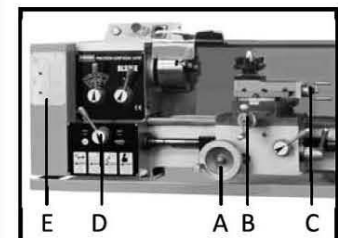

Fig. 12
Handwheel of Apron travel(A), cross travel(B) and top slide(C) can be operated for longitudinal or cross feeding (Fig. 12)
1. Set the selector knob (D. Fig. 12) to select the feed direction and the feed speed
2. Use the table (E. Fig. 12)on the lathe for selecting the feed speed or the thread. Adjust the change gear if the required feed or thread cannot be obtained with the installed gear set